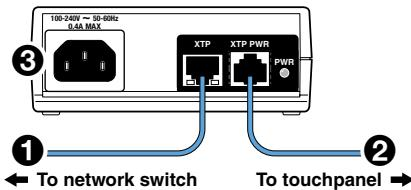

Figure 5. Connecting to a Power Injector
The power injector must be purchased separately. Figure 5 shows the Extron XTP PI 100. Your power injector may look different.
Connect a straight-through Ethernet cable from the power injector to a switch or router (1). This cable carries network information from the switch or router to the power supply input. A second straight-through cable (2) carries the network information and 48 VDC from the power injector to the touchpanel LAN/PoE connector (see figure 4, G, on the previous page). Connect the IEC power cord to a convenient 100 VAC to 240 VAC, 50-60 Hz power source (see figure 5, 3).